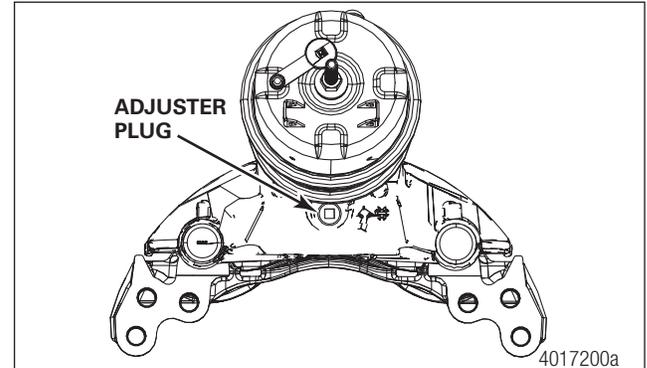

Fig. 5.1 Adjuster Plug Installed
- Check that the adjuster plug is present. If missing, replace the plug immediately. Figure 5.1.